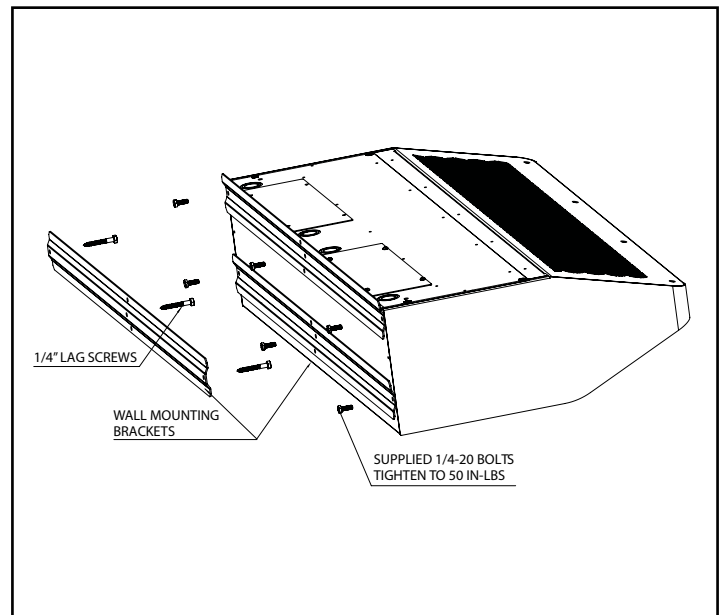

Figure 4 - Wall Mounting Preparation
2. Use 1/4"-20 bolts to attach the wall mounting brackets to the back of the air curtain. See Figure 4.